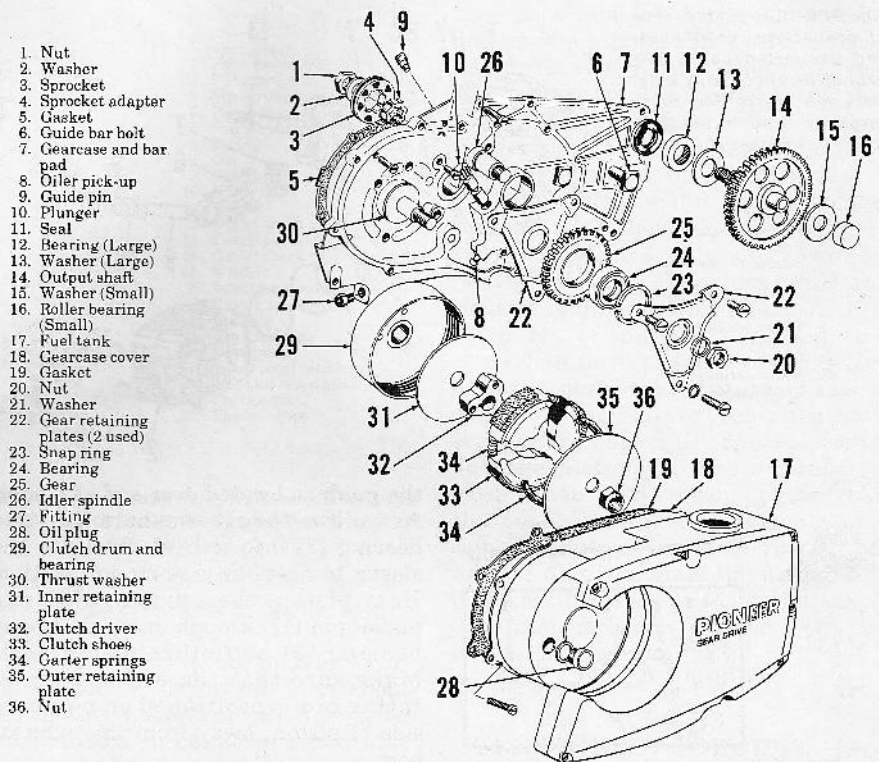

Fig. PR5-16—Exploded view of gearcase and clutch assembly typical of 1520 and 1560 models. Automatic chain oiler (parts 8, 9 & 10) is not used on all models.
CLUTCH AND GEARBOX. The clutch used on gear drive models is contained in the gearcase. It is necessary to remove the gearcase cover (18—Fig. PR5-16) in order to service the clutch, gears, shafts or bearings. Remove the handlebar, saw chain, guide bar, fuel tank (17), then remove screws and cover (18). A puller should be used to remove clutch driver (32) from the crankshaft. Idler spindle (26) should be tight fit in gearcase bore. The gearcase should be heated before removing or installing idler spindle.